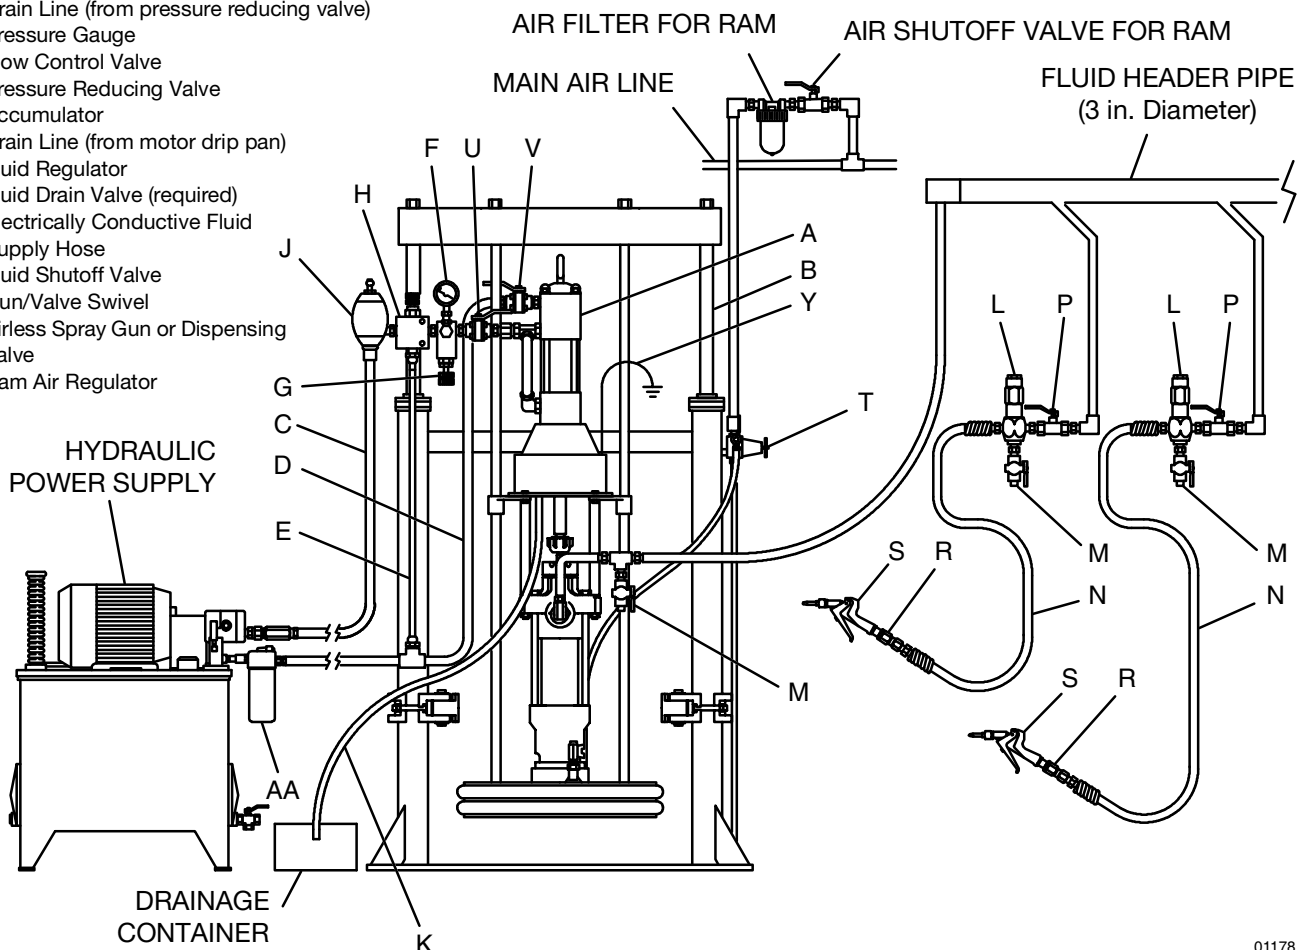

Fig. 4
The Typical Installation shown in Fig. 4 is only a guide for selecting and installing system components and accessories. Contact your Graco distributor for assistance in designing a system to suit your particular needs.
Mount the pump (A) to suit the type of installation planned. Fig. 4 on page 10 illustrates a ram-mounted pump in a multi-gun header system. Pump dimensions and the mounting hole layout are shown on pages 36 and 37.
**On the hydraulic supply line (C)**, install the following accessories in the order shown in Fig. 4, using adapters as necessary:
- **A shutoff valve (U)** to isolate the pump for servicing.
- **A fluid pressure gauge (F)** to monitor hydraulic oil pressure to the motor and to avoid overpressurizing the motor or displacement pump, and **a pressure and temperature-compensated flow control valve (G)** to prevent the motor from running too fast and possibly damaging itself.
- **A pressure reducing valve (H), with a drain line (E)** running into the hydraulic return line (D).
- **An accumulator (J)** to reduce the hammering effect caused by the motor reversing direction.
**On the hydraulic return line (D)**, install the following accessories in the order shown in Fig. 4, using adapters as necessary:
- **A shutoff valve (V)** to isolate the pump for servicing.
- **A filter (AA)** of 10 micron size.
Install the following accessories in the positions shown in Fig. 4, using adapters as necessary:
- Install a **fluid shutoff valve (P)** at each gun drop, to isolate the gun and fluid accessories for servicing.
- Install a **fluid drain valve (M)** near the pump fluid outlet, and at each gun station. The drain valves are required in your system to relieve fluid pressure in the displacement pump, hose and gun (see the **WARNING** at left). Drain valves at the gun stations may be mounted in the base of a **fluid regulator (L)**, using an adapter.
- **A fluid regulator (L)** controls fluid pressure to the gun/valve, and dampens pressure surges.
- **A gun or valve (S)** dispenses the fluid. The gun shown in Fig. 4 is a high pressure dispensing gun for highly viscous fluids.
- **A gun swivel (R)** allows freer gun movement.
Refer to Fig. 4 on page 10. Check the hydraulic fluid level before each use, and add fluid as necessary. Make certain that the supply line shutoff valve (U) and the return line shutoff valve (V) are closed, then start the hydraulic power supply.